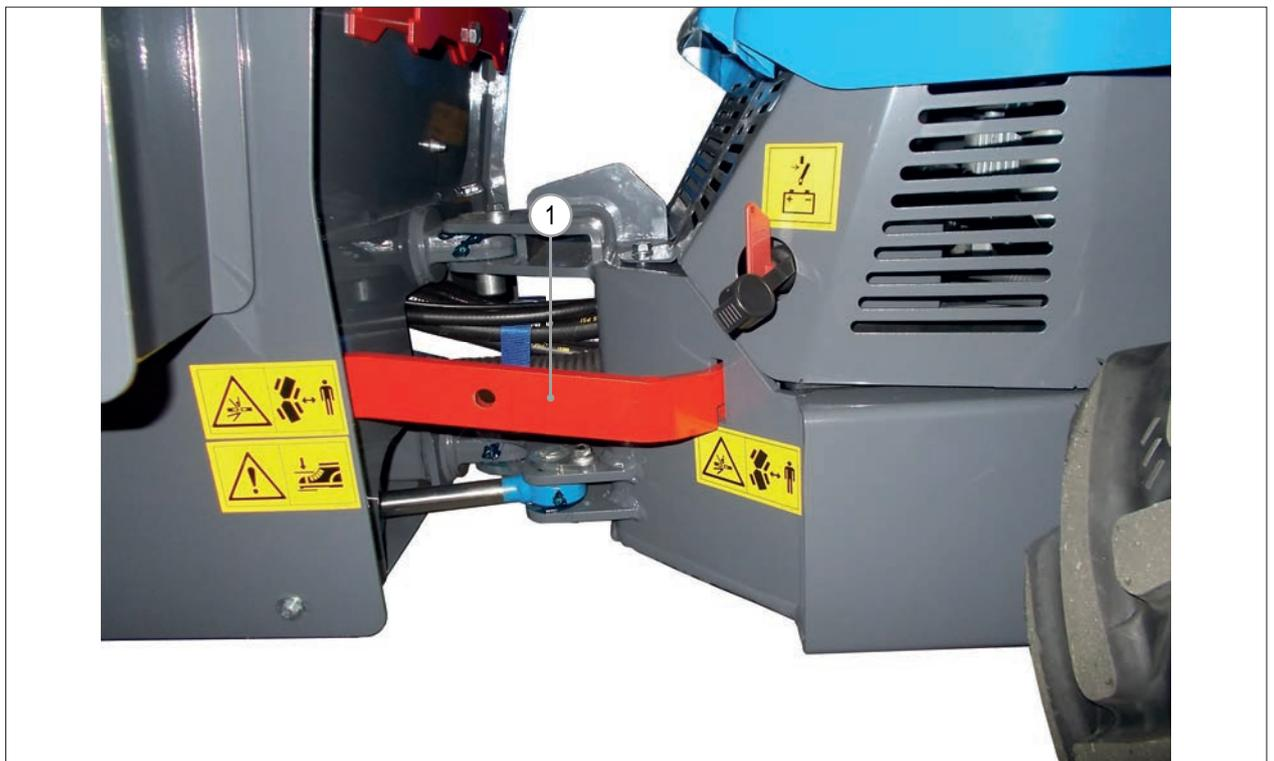

FIG. 15
- 4) Insert the bracket (FIG. 15 - Ref. 1) into the two slits placed on the right side of the machine near the joint of the central steering. To let the locking bar placed into the right position, gently move the steering wheel with engine off, starting from straight position.